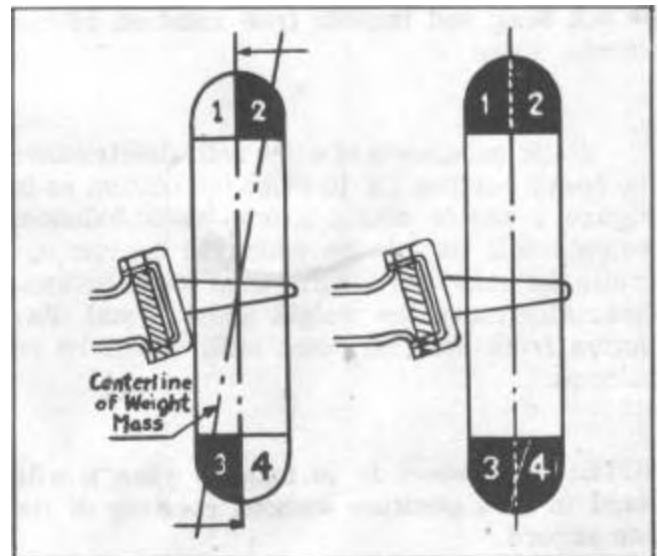

FIGURE 2
2. The porthole (16) Figure 2 must not be blocked by the piston cup not returning to its proper release position. Refer to "Brake Pedal Adjustment".
Dynamically--Figure 2
This wheel when started spinning, will cause a center line through the weights at (2) and (3) to attempt to get at right angles to the rotation axis, Figure 2, which exerts a force on the wheel to try to obtain a new center line and thus change the axis of rotation. The wheel in spinning, therefore, tries to equalize the weight at (2) and (3) by moving the center line first in one direction and then in another, caus-
Weights must be added to (1) and (4), Figure 2 to equal the weight in sections (2) and (3), and in Figure 2 the weight is evenly distributed about both the axis of rotation and the center line of the wheel. This wheel is statically and dynamically balanced.